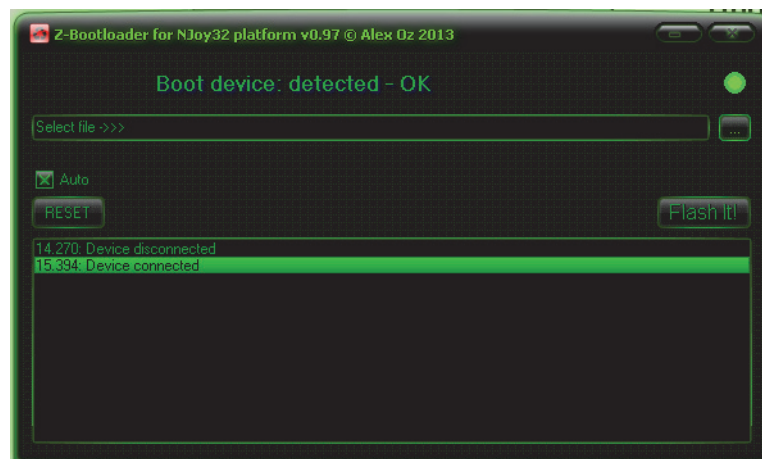

Fig. 2.3.
You will see firmware upgrade utility window (fig. 2.3)
5. You will see that device is connected (Fig. 2.3 on p. 13). Further actions are the same as described in sect. 2.2.1 on p. 13.